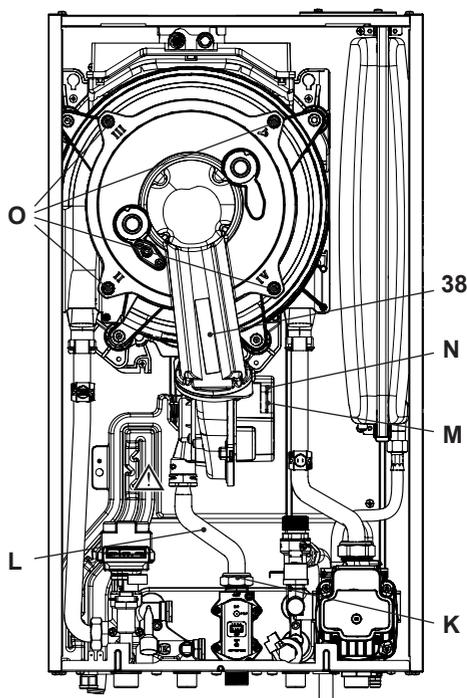

Fig. 10.13
Removing the fan burner unit 38 in Fig. 10.13.
- Disconnect the connector "M" by pulling it downwards (Fig. 10.13).
- Disconnect the fan connector "N" by pulling it downwards (Fig. 10.13).
- Unscrew screws "O" and remove the fan burner unit 38 (Fig. 10.13).